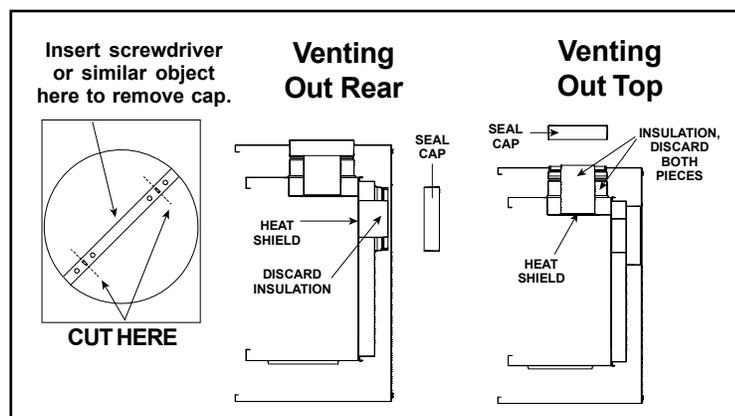

Figure 15
Remove the installed rear seal cap from the rear starting collars by cutting the strap at each end (See Figure 15). Follow the flue configuration tables accordingly.
**⚠ WARNING: THE TOP HEAT SHIELD (INSIDE THE FIREBOX) MUST REMAIN ATTACHED IF THE FLUE SYSTEM IS ATTACHED TO THE REAR STARTING COLLARS. SEE FIGURE 15.**
Remove the top flue collar seal cap by cutting the strap on each end. Remove both pieces of insulation inside the top two starting collars (see Figure 15).
**⚠ WARNING: THE REAR FLUE COLLAR SEAL CAP MUST REMAIN ATTACHED TO THE REAR FLUE COLLARS IF THE FLUE SYSTEM IS ATTACHED TO THE TOP STARTING COLLARS. SEE FIGURE 15.**